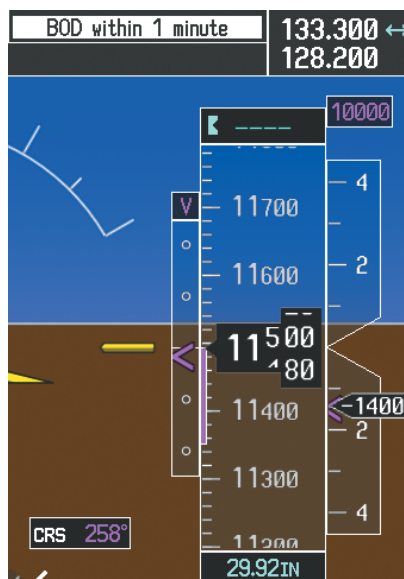

Figure 5-134 Approaching Bottom of Descent (BOD) at OPSHN Offset Waypoint
- 17) When the aircraft is one minute from the bottom of descent (BOD) it is annunciated as shown in Figure 5-134. Upon reaching the offset waypoint for OPSHN, the aircraft is at 10,000 feet.